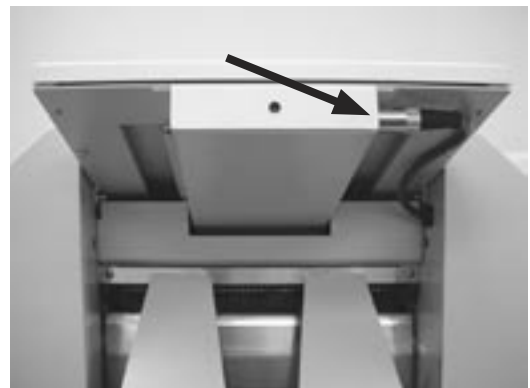

Figure 2b
6. Install the upper fold table and plug the cord (figure 2b) into the fold plate receptacle.